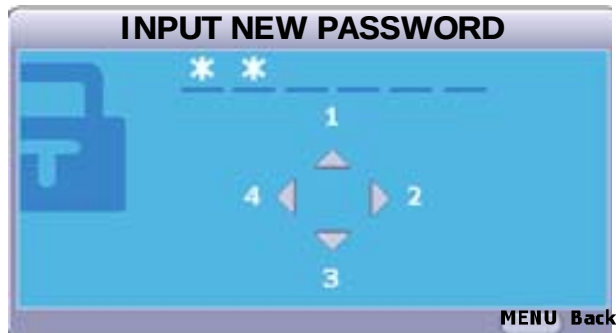

Figure 25. Setting a Password.
3. As pictured in Figure 25, the four arrow keys (▲, ►, ▼, ◀) respectively represent 4 digits (1, 2, 3, 4). According to the password you desire to set, press the arrow keys to enter six digits for the password.